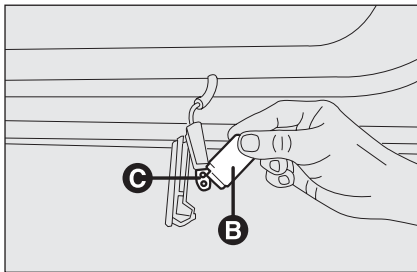

fig. 36
- press the bulb protection cover sides **B-fig. 36** on the two fastening pins and turn it;
- replace the snap-fitted bulb **C-fig. 36**;